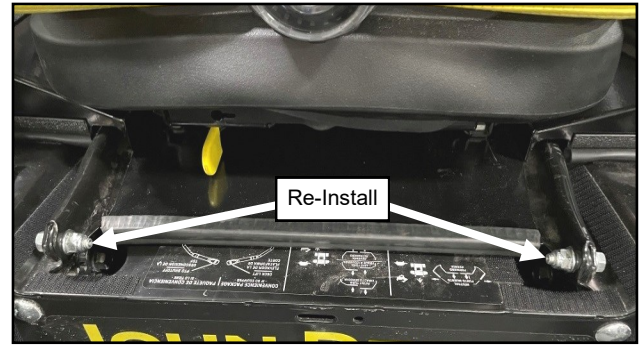

Fig. 1.36 (Re-Install Seat with Seat Pan)
- 1.36** Re-install seat with seat pan assembly back onto the vehicle by re-installing OEM hinge bolts and nuts per figure 1.36.